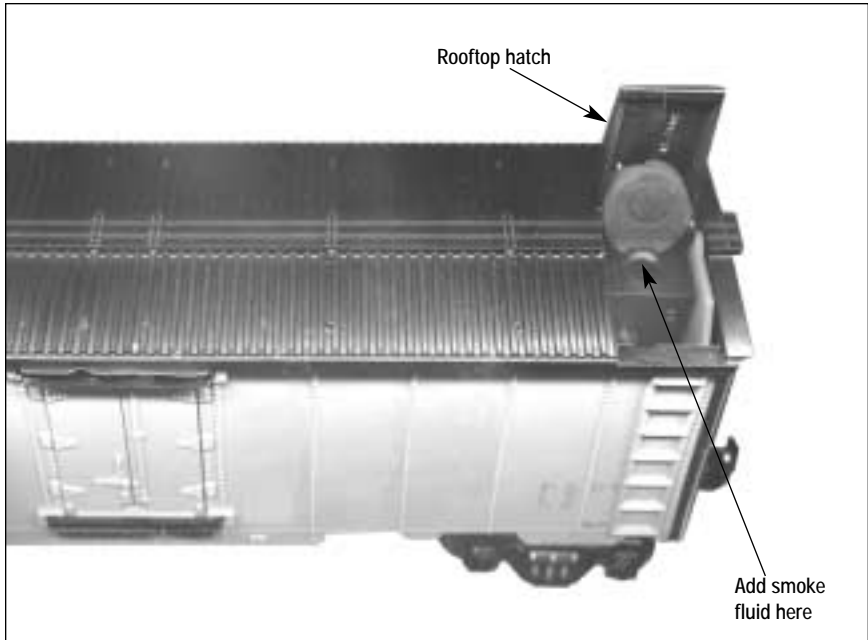

Figure 1. Adding smoke fluid
**B**efore operating the Hot Box Reefer, be sure to add 10-15 drops of smoke fluid to the smoke generator. As illustrated in Figure 1, smoke fluid is added under the rooftop hatch. Add a few drops of smoke fluid when smoke production decreases.